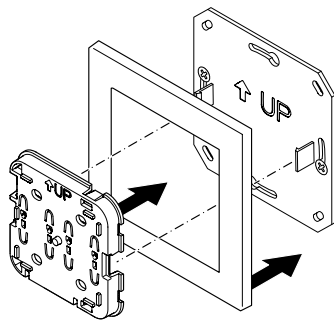

Figure 4 - place the device onto the mounting plate
3. Place the device onto the mounting plate (fig. 4).